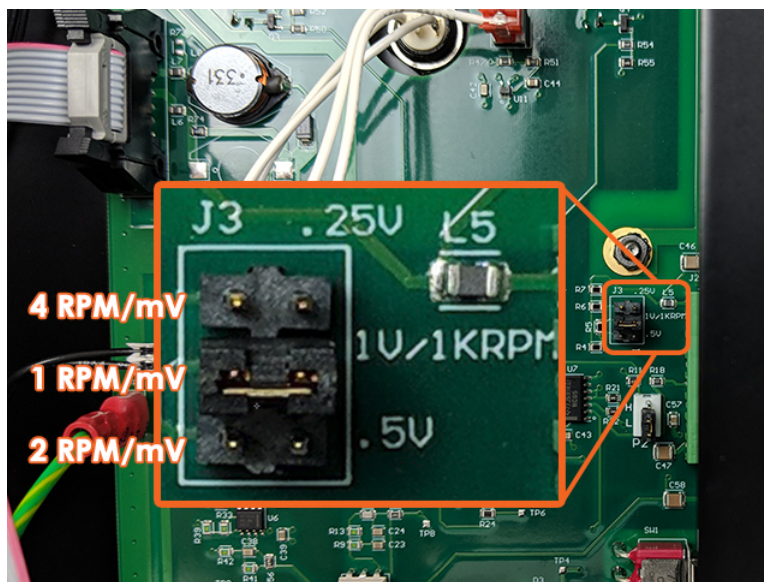

Figure 2-3. J3 Jumper on Control Unit Circuit Board Selects Rotation to Voltage Ratio
- Find and locate the J3 jumper on the circuit board (middle right). There are three jumper positions, which control the RPM/voltage conversion ratio. By default, the jumper is located in the middle, which corresponds to the 1 RPM/mV setting (see Figure 2-3).
The observed rotation rate is proportional to the input signal based on the setting of the J3 jumper (see Figure 2-3). The standard control ratio is $1 \text{ RPM}/\text{mV}$. Therefore, the displayed rotation rate on the blue LED is proportional to a voltage by the simple calculation, which follows.
8. Apply the desired input signal (see Table 3-2). Record the stable handheld tachometer reading and Blue LED Rotation Rate display reading. Remember, the input ratio is set at the production facility to $1 \text{ RPM}/\text{mV}$ (see Figure 2-3).